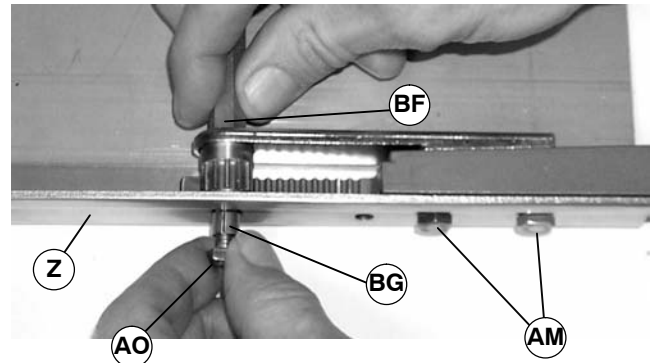

Figure 32
2. Remove M6 hex head cap screw (AO of Figure 32) and sleeve (BG) from conveyor (Z) and hex pinion (BF).